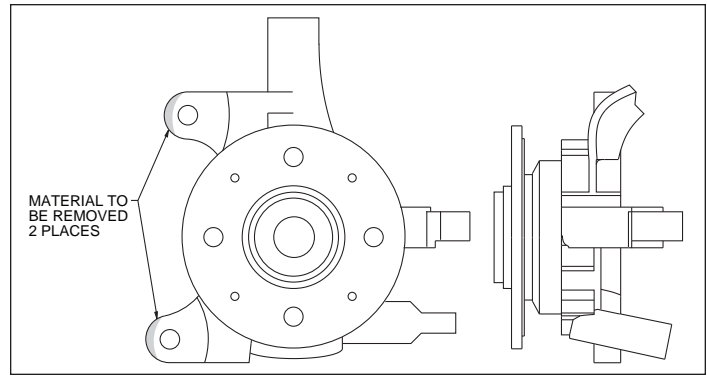

Figure 3. Spindle Modifications
- These modifications should be performed by a qualified machinist. Refer to figure 3, right. Only one view of the spindle is shown, but the modifications need to be performed on both spindles.